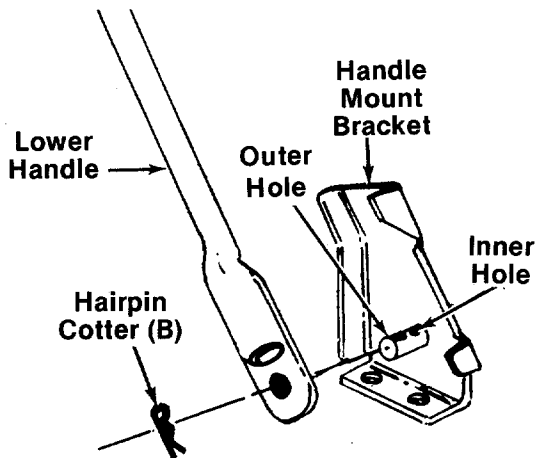

FIGURE 2.
- A (1) Rope Guide Bolt
- B (2) Hairpin Cotter
- C (2) Lock Washers 5/16" I.D.
- D (2) Hex Nuts 5/16-18 Thread
- E (1) Curved Head Carriage Bolt
- F (2) Cable Ties
- G (1) Plastic Plug (Not Shown)
3. Attach the lower handle by placing the bottom holes in the lower handle over the weld pins on the handle mount brackets. Make certain the instruction label on the lower handle can be read from the operating position. Secure with hairpin cotters (B) in inner holes on weld pins. See figure 2.